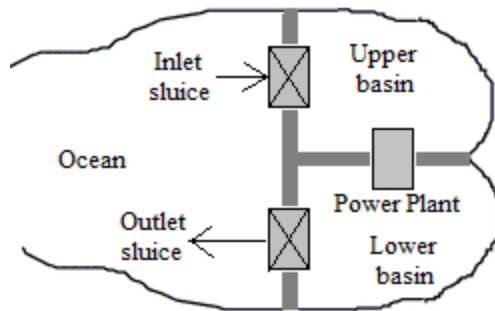

Fig.8. Double basin Tidal Power plant
- This system has two basins at different levels and a dam is provided in between these basins as shown in figure 8.